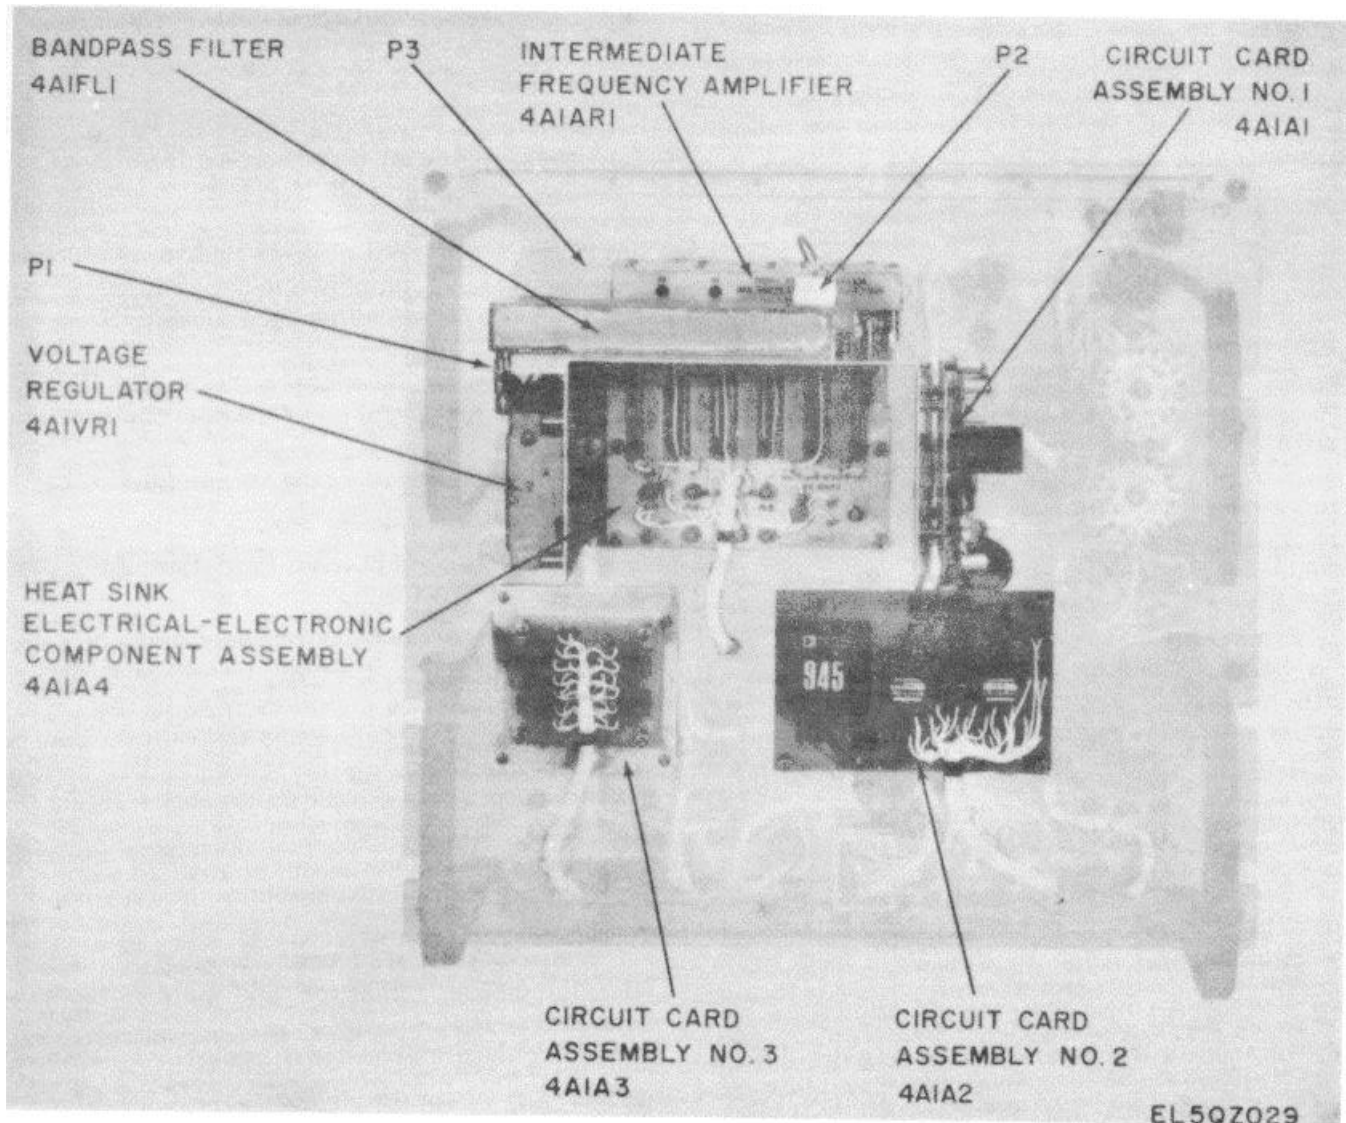

Figure 5-16. RF Modules Test Facility Front Panel, Rear View.
5-27. Replacement of Circuit Card Assembly No. 1 4A1A1 (fig. 5-16)
5-28. Replacement of Heat Sink, Electrical-Electronic Component Assembly 4A1A4 (fig. 5-16)
f. Replace the front panel in the case. 5-29. Replacement of Voltage Regulator 4AIVR1 (fig. 5-16)
5-29. Replacement of Voltage Regulator 4A1VR1 (fig. 5-16)
5-30. Replacement of Circuit Card Assembly No.2 4A12 (fig. 5-16)
5-31. Replace of Bandpass Filter 4A1FL1 (fig. 5-16)
b. Disconnect P1 and P2 (fig. 5-16) from band-pass filter J1 and J2 respectively.
5-32. Replacement of Intermediate Frequency Amplifier 4A1AR1 (fig. 5-16)
b. Disconnect plug P3 (fig. 5-16) from the amplifier.